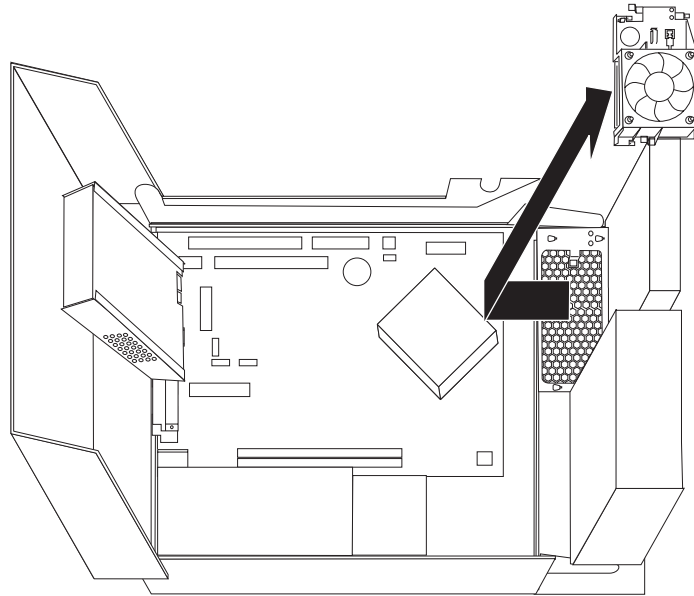

Figure 32. Accessing the fan assembly
2. Pivot the drive-bay assembly upward to gain access to the fan assembly. See Figure 32.